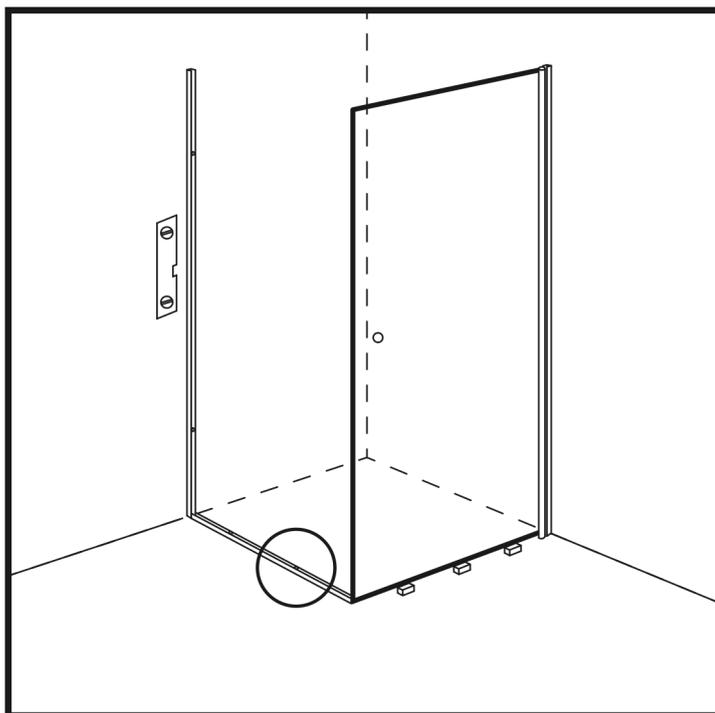

Figure 11
23. Place the shorter U-profile on the floor, with the end against the U-profile on the wall and parallel to the opposite wall. (Figure 11)